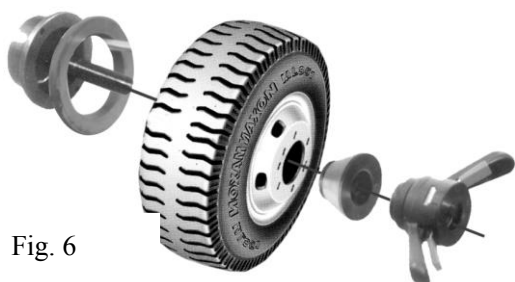

Fig. 6
4.2.3 Specific flange clamping (shown in Fig. 6) (no such for the time being)